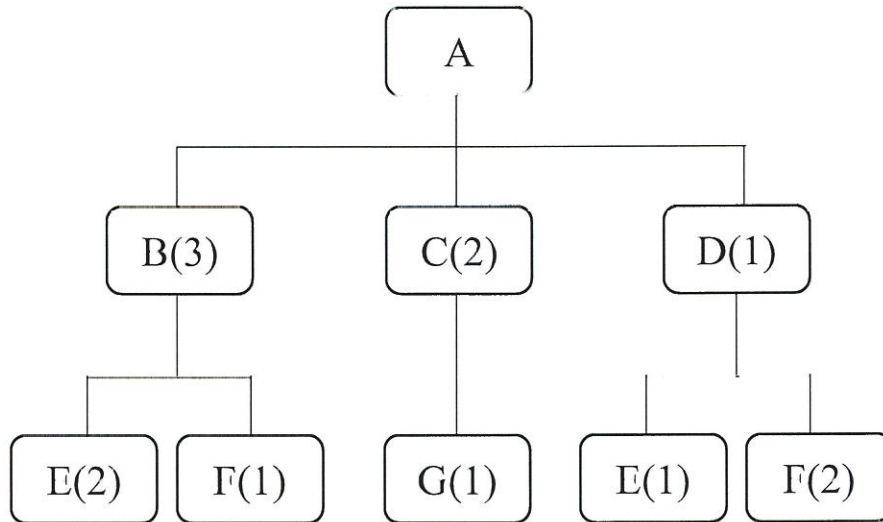

Figure Q6: Bill of materials for Product A
**Q6** Figure Q6 illustrates the Bill of Materials for product A. The Master Production Schedule for product A calls for 100 units in week 2, 150 units in week 5, and 200 units in week 7. The lead times for components B, and D are 1 week, and for the other components the lead time is 2 weeks. No safety stock is required for components B, C, D, E, F and G. The L4L lot-sizing rule is used for components B, E and G; the POQ lot-sizing rule ( $P=3$ ) is used for component D. Component F has an FOQ of 250 units, and C has an FOQ of 100 units. On hand are 50 units of B, 50 units of C, 200 units of D, 50 units of E, and 300 units of F. Component B and G has a scheduled receipt of 50 units in week 1. Based on your analysis;